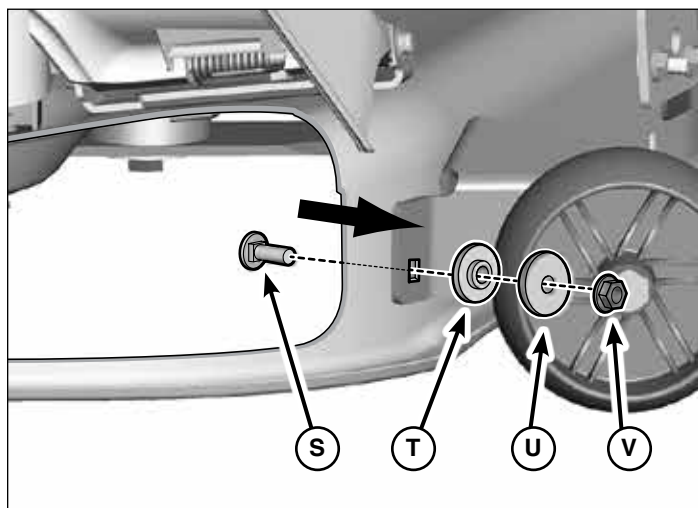

Figure 10
2. On the inside of the deck, insert the carriage bolt (**S**, Figure 10). Attach the spacer (**T**), washer (**U**) and the flange locknut (**V**).